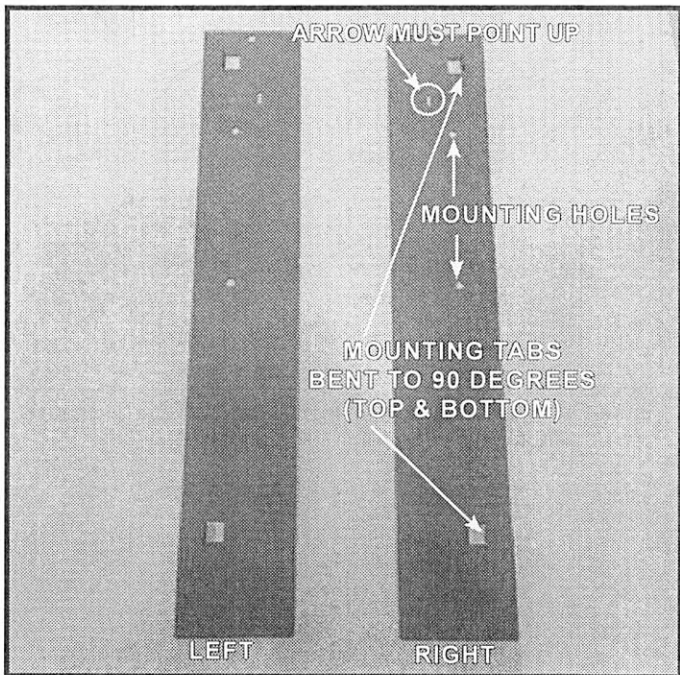

Figure 8. Bend Tabs on Auxiliary Hanging Brackets
1. Locate the mounting tabs on the two auxiliary hanging brackets. The mounting tabs are shipped unbent. Use a pliers to bend the tabs to 90 degrees as shown in Figure 8.